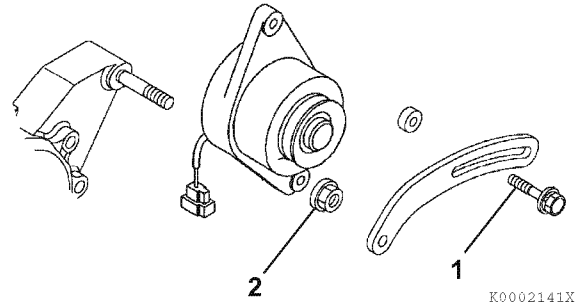

Figure 12-30
1. Position the dynamo on the gear case. Loosely reinstall the nut (Figure 12-30, (2)) on the gear case stud and the V-belt adjuster bolt (Figure 12-30, (1)).